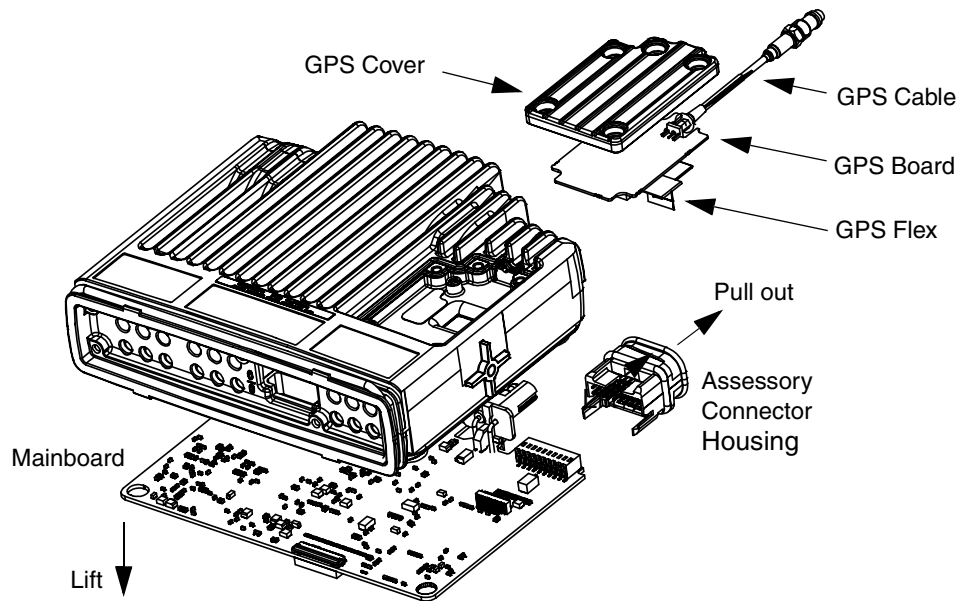

Figure 5 GPS and Mainboard Removal (view from bottom side)
5. Slowly lift the transceiver board on the edge at the front of the terminal (the edge that mates with the control head) and pull gently toward the front of the terminal as shown in Figure 5. Take care to slide the antenna connector and power connector out of the chassis towards the front.